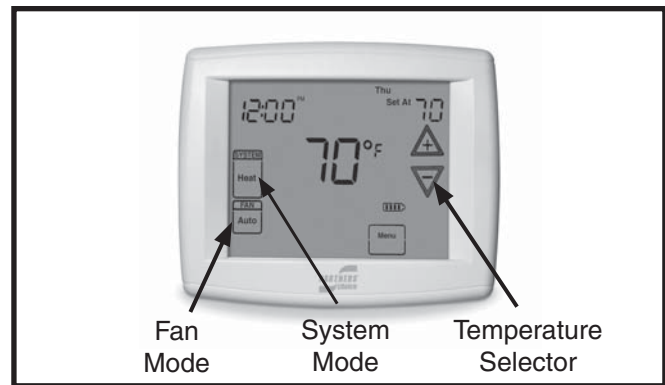

Figure 1. Digital Thermostat
1. Set the thermostat system mode to COOL and the thermostat fan mode to AUTO (See Figure 1, page 3).
1. Set the thermostat system mode to Heat and the thermostat fan mode to AUTO (See Figure 1).
Set the thermostat system mode to OFF and the thermostat fan mode to AUTO. See Figure 1. **NOTE:** The system will not operate, regardless of the thermostat temperature selector's setting.